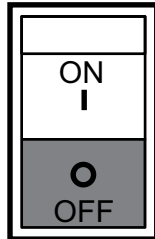

Figure 25. Main Circuit Breaker (OFF)
1. Place main circuit breaker (Figure 25) in the **OFF** position.